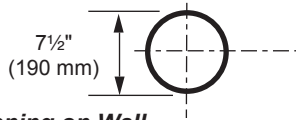

Figure 17 - Locate Vent Opening on Wall
3. Attach vent pipe assembly to the stove. Set stove in front of its permanent location to insure minimum clearances. Mark the wall for a 9½" (241 mm) square hole (for noncombustible material such as masonry block or concrete, a 7½" [190 mm] diameter hole is acceptable). *Figure 17.* The center of the hole should line up with the center line of the horizontal rigid vent pipe. Cut a 9½" x 9½" (241 x 241 mm) square hole through combustible exterior wall (7½" [190 mm] diameter hole if noncombustible). Frame as necessary. *Figure 17*
3. Cut a hole in the roof using the locating hole as a center point. (Cover any exposed open vent pipes before cutting hole in roof). The 9½" x 9½" (241 x 241 mm) hole must be measured on the horizontal. Actual length may be larger depending on the pitch of the roof. There must be a 1" minimum clearance from the vent pipe to combustible materials. Frame the opening as shown in *Page 16, Figure 17*.